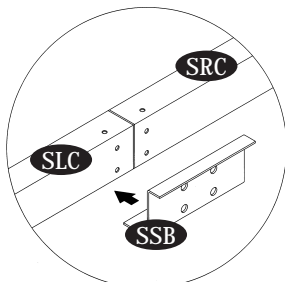

Fig.1
11. Place the sliding channel support (SSB) on the sliding channel (SLC) & (SRC). See fig.1. Align the holes with sliding channels and secure with (S1) screws. See fig. 2 & 3.